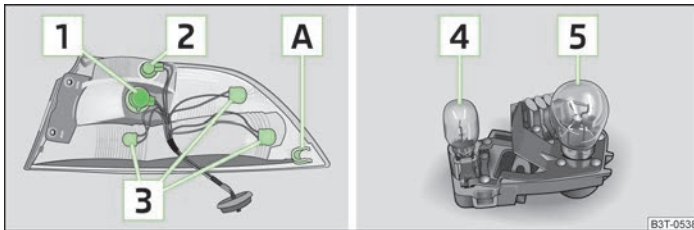

Fig. 190 Outer part of the tail light: Bulbs/Inner part of the tail light: Bulbs
Overview of the location of the bulbs » Fig. 190.
- › To re-install the tail light, first of all guide it with the support **A** » Fig. 190 towards the front onto a bolt on the bodywork.
- › Remove the faulty bulb **4** » Fig. 190 from the holder and insert a new bulb.